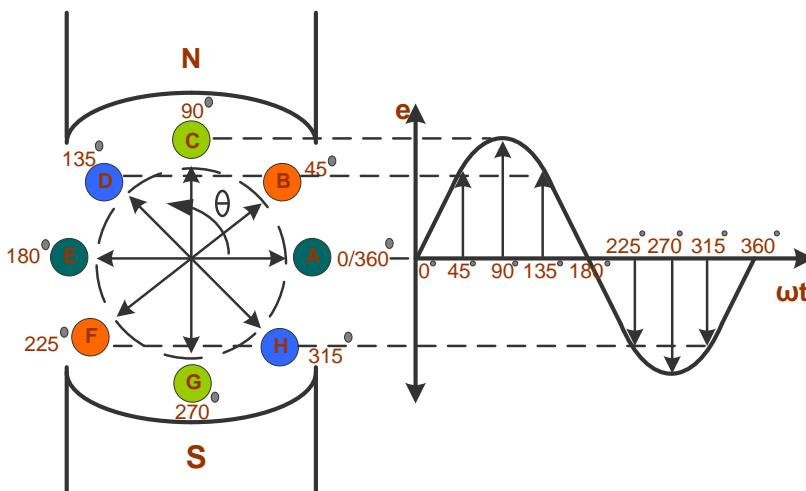

Figure 2.3 Waveform of Alternating Induced EMF
- Thus, both the induced emf and the induced current vary as the sine function of the phase angle  $\omega t = \theta$ . Shown in figure 2.3.